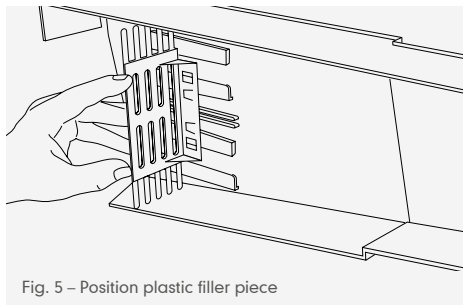

Fig. 5 – Position plastic filler piece
- 5 Slide the plastic filler piece onto the internal rails of the dry verge. The filler piece prevents the ingress of birds and insects and will position onto the two middle rails. Engage and slide the filler piece until it clicks into place, approximately half way down the internal rails. Please note that the filler will only engage if it is the correct way round, as illustrated in Fig. 5 (page 150).